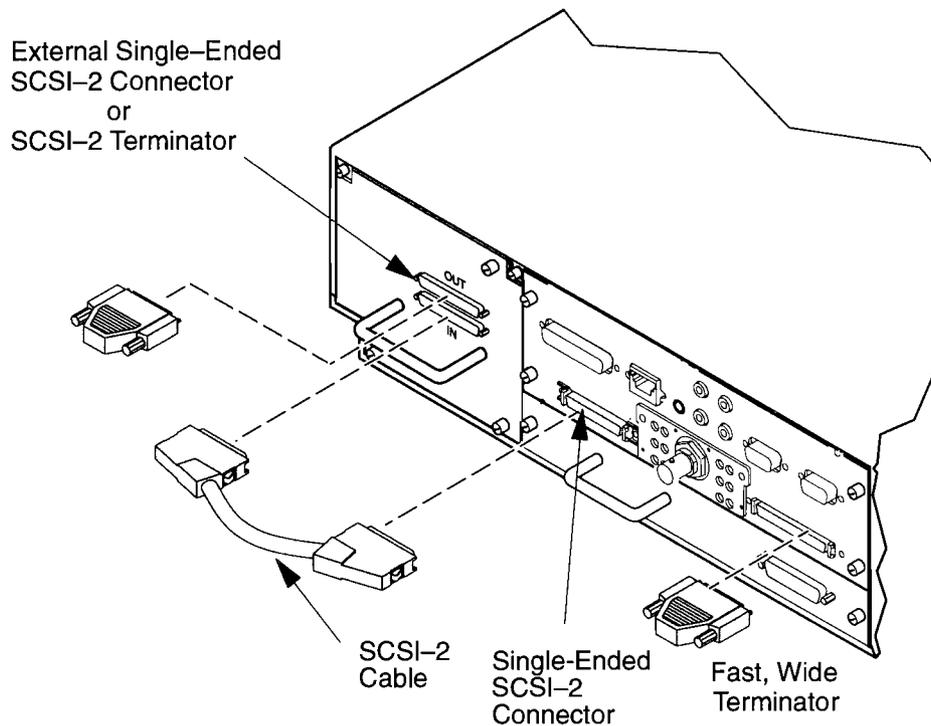

Figure B-30. Disconnecting the External Single-Ended SCSI Cable
Disconnect both ends of the external SCSI cable by squeezing the clips on either side of each connector and pulling out the connector (see Figure B-30 or B-31).
2. Disconnect the SCSI terminator, if there is one, or any external SCSI device cable that may be connected in the position of the terminator (see Figure B-30 or B-31).